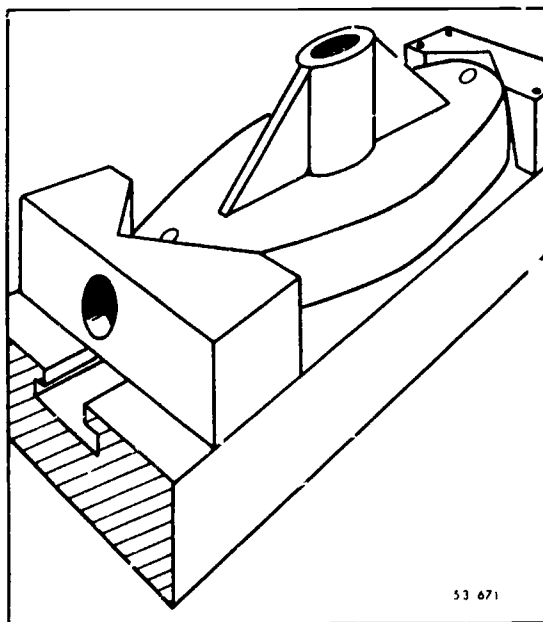

Figure 1-17 V-block centralizers
**V-locators.** V-locators are the best kind to use for holding cylindrically shaped objects. The reason is that when a cylinder is placed on a V-block, it loses all but two degrees of freedom—it can rotate about its own axis and it can move lengthwise in the V-slot. But if a stop is put at one end of the V-block, the cylinder can no longer move lengthwise. And if the cylinder is clamped to the V-block, the cylinder loses its last degree of freedom, rotation about its axis. A rough, cylindrically shaped object should have a V-locator near each end instead of one V-block to hold it over its entire length. This minimizes rock or spring in the part. V-locators are also used for parts other than cylinders. An example of the V-blocks that are used as centralizers for parts with radial ends is shown in figure 1-17. The placement of a V-locator is important. For drilling through the diameter of rods of different sizes, position the V-block, so that the center of any sized rod is in line with the axis of the drill bushing.